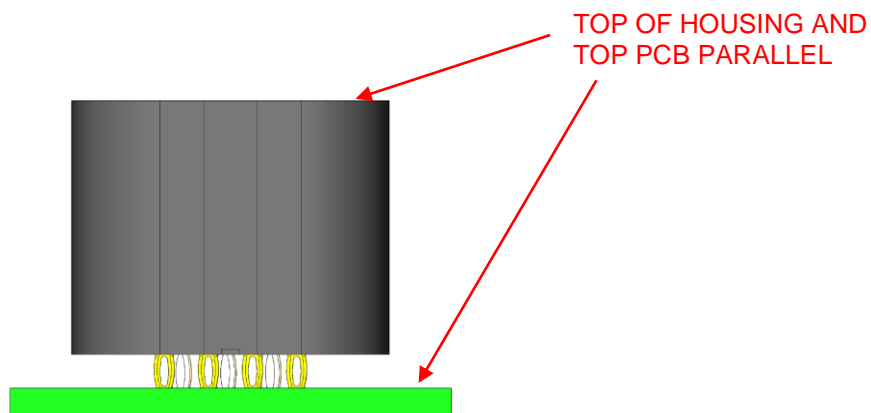

Figure 3: Connector Parallel to Top of PCB and EONs Aligned
- Insert press fit tails into holes on the PCB. The top surface of the housing should be parallel with the top surface of PCB after all the tips have been properly inserted. See figure 3.